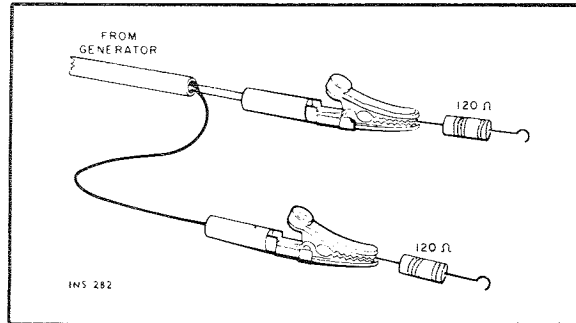
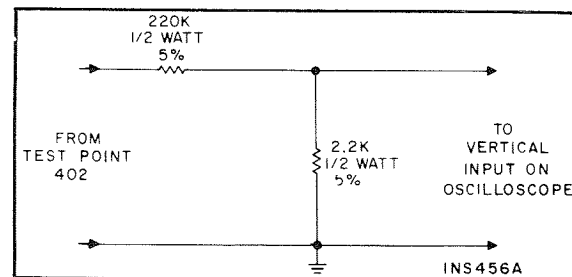

Figure 7. Connections To Provide 300-ohm Generator Output Impedance. Matching Resistors Reduce Generator Voltage By Half At Antenna Terminals.
Figure 8. Voltage Divider Probe.
- (2) Connect an accurately calibrated DC VTVM to Test Point 9B (on TUNE-O-MATIC circuit board). DO NOT USE DC VOM.
- (3) Rotate TUNING knob to center dial pointer on 88 MHz calibration mark on dial glass.
- (4) Using a small screwdriver, adjust R2B, FM ALIGNMENT POT. for DC VTVM reading of exactly 4.3 volts. Disconnect DC VTVM.
- (5) Connect an FM generator to the FM ANTenna terminals. Use a 120-ohm composition resistor in series with each lead from the generator (see Figure 7).
- (6) Connect a scope and an AC VTVM to either LEFT or RIGHT RCDR OUT jack.
- (7) Set FM generator frequency to receiver frequency, 90 MHz, modulated with 400 Hz, ± 75 kHz deviation. Set generator output level as low as possible.
- (8) Align (oscillator coil) L504 first, then (mixer coil) L503, and (RF coil) L502 for maximum reading on AC VTVM and tuning meter, and maximum waveform amplitude and symmetry.
- (9) Set generator frequency and TUNING dial pointer to 106 MHz. Align (oscillator trimmer) C512 first, then (mixer trimmer) C511, and (RF trimmer) C503 for maximum reading on AC VTVM and tuning meter, and maximum waveform amplitude and symmetry.
- (10) Repeat alignment several times until accurate dial calibration and maximum gain are obtained. Keep generator output level as low as possible during all adjustments.
- (1) Connect an FM generator to the FM ANTenna terminals. Use a 120-ohm composition resistor in series with each lead from the generator (see Figure 7).
- (2) Set generator frequency to same frequency as receiver. Set generator RF output level to full output (approximately 100,000 μ V) with audio modulation off.
- (3) Adjust generator frequency for peak tuning meter reading.
- (4) Adjust FM METER ADJ. pot. R328 (on AM/FM IF, MPX board) for tuning meter reading of 4.5.
- (1) Connect RF output of multiplex generator to the FM ANTenna terminals. Use a 120-ohm composition resistor in series with each lead from the RF output (see Figure 7). Set MPX generator for external modulation with 19 kHz pilot carrier, ± 7.5 kHz deviation (10% pilot, no audio). Tune receiver to RF frequency of MPX generator.
- (2) Connect DC VTVM to Test Point 403 (pin 4G on AM/FM IF, MPX board).
- (3) Adjust cores of Z401 and Z402 (on AM/FM IF, MPX board) for maximum reading on DC VTVM (2.5 to 4 VDC).
- (4) Connect output of audio generator, set for 1 kHz, to the external modulation input of MPX generator and to external sync input of an oscilloscope. Adjust audio generator level for composite signal ± 75 kHz deviation (10% pilot, 90% audio). Modulate right channel only.
- (5) Connect AC VTVM to LEFT RCDR OUT jack. Connect scope through voltage divider probe (see Figure 8) to Test Point 402 (pin 4K on AM/FM IF, MPX board).